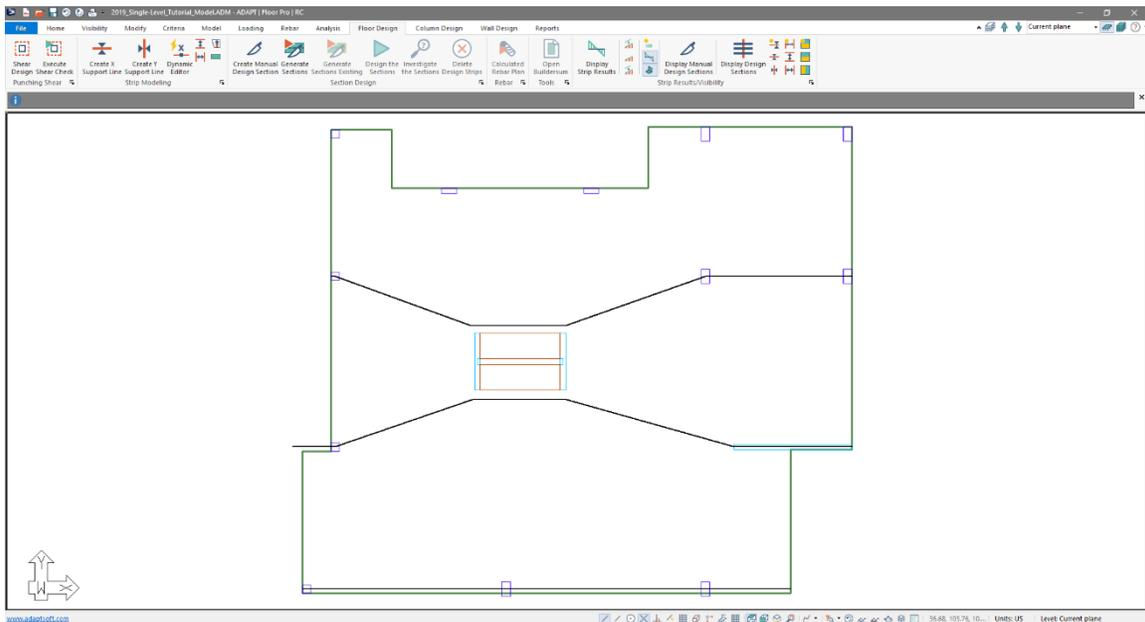

Figure 6-11
- Enter the third support line in the same fashion. Once it is entered the users screen should appear similar to the screen shown in **FIGURE 6-11**.